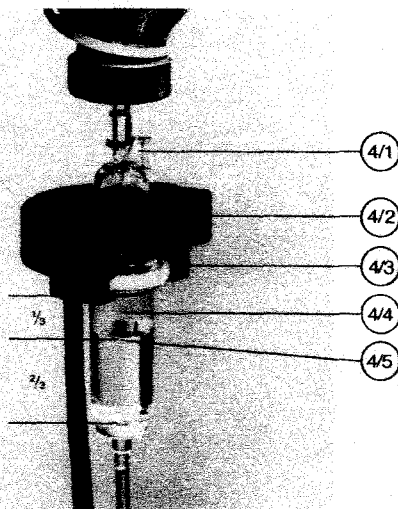

Fig. 4
- a) Connect drip chamber to solution bottle with roller clamp and venting closed. By squeezing flexible drip chamber, fill lower part of it up to 2/3 (see fig. 4/5).
- b) Open vent cone (see fig. 4/4).
The drip detector is fixed to the white ring of the drip chamber. Pay heed to the marking "oben" and "top" respectively (see fig.4/2). To prevent unnecessary fault signals, the drip chamber with the attached drip detector should be connected to the solution bottle in a vertical position.